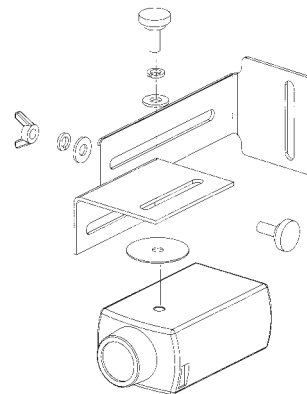

Figure 2
10. Adjust camera bracket to proper angle and mount camera to camera bracket. See **Figure 2**.